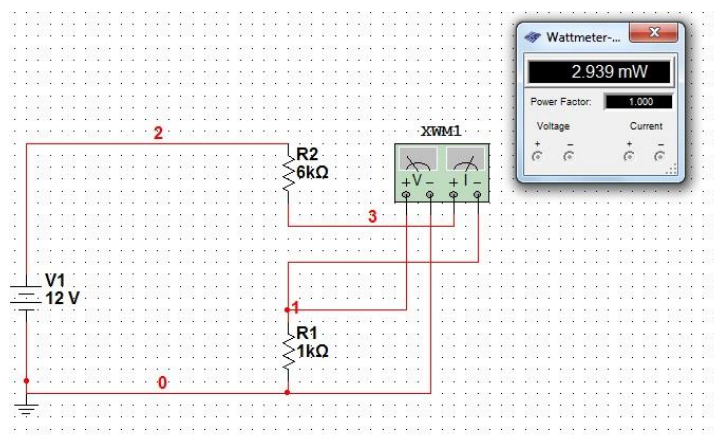

Figure 4.19: Wattmeter Connections
- a. **Connecting a Wattmeter:** Click and drag the Wattmeter to the appropriate location from the Instruments toolbar (fourth button from the top as shown in Figure 4.13). Connect the 'V' part in parallel and 'I' part in series to the component as shown in figure 4.19 and run the simulation.